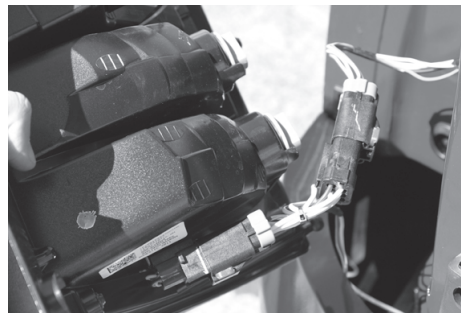

Figure 3
4. Starting on driver's side position the RV harness with connectors containing Yellow wires between separated vehicle harness connectors shown in Figure 3. Press connectors firmly into vehicle connectors until they lock into place. Pull on connectors to ensure the locks are engaged.